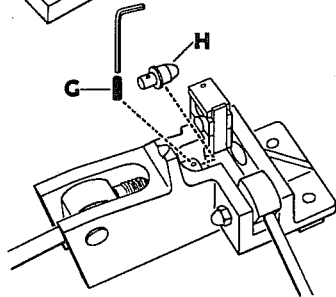

FIG. 2
3. Move flaring lever to right until cone completes flaring operation and abrupt resistance is felt (Fig. 2). (Excessive force is not required in fabricating flares.) Recess in die and self-centering, hard chrome finished cone automatically form a flare with the correct S.A.E. dimensions every time.